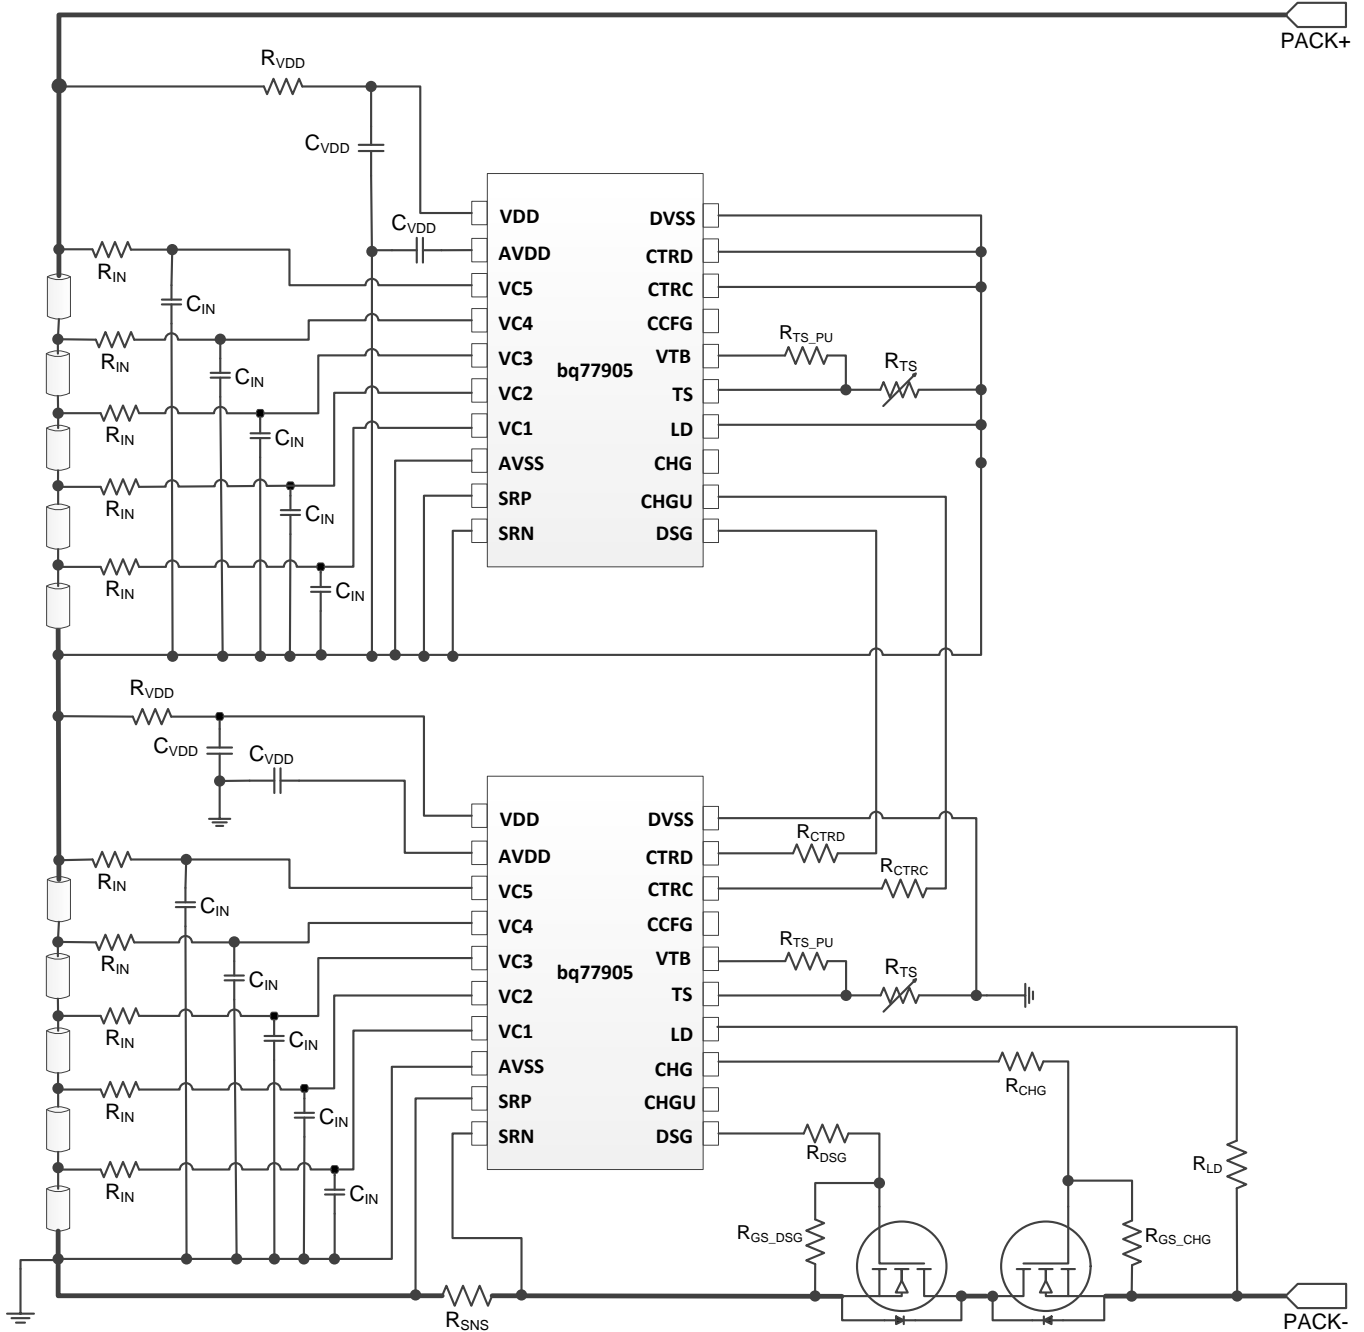
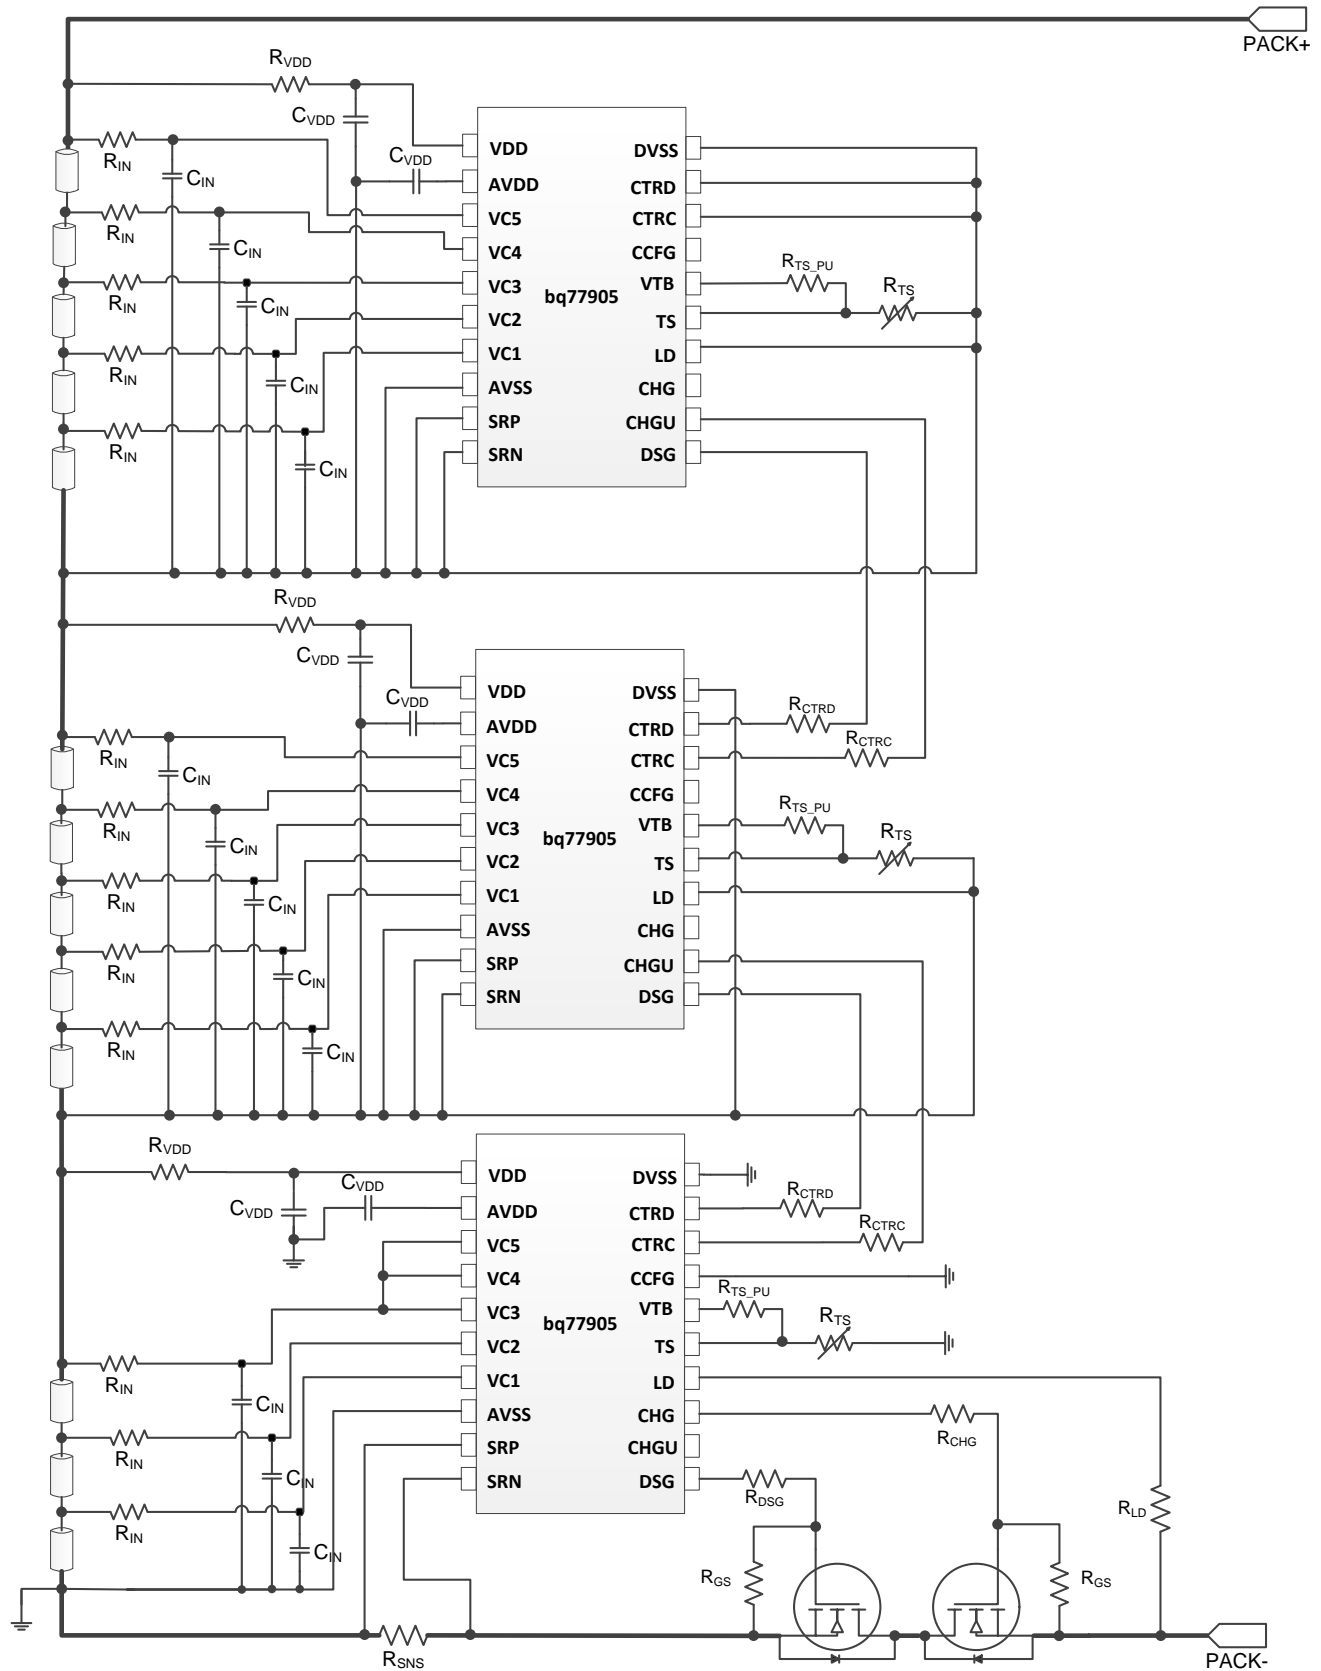

图 17. 10S Pack Using Two bq77905 Devices
图 18. 13S Pack Using Three bq77905 Devices
- If load removal is not used for UV recovery, connect the upper device LD pin to its AVSS pin shown in 图 17 and 图 18. Otherwise, refer to 图 25 for proper LD connection.